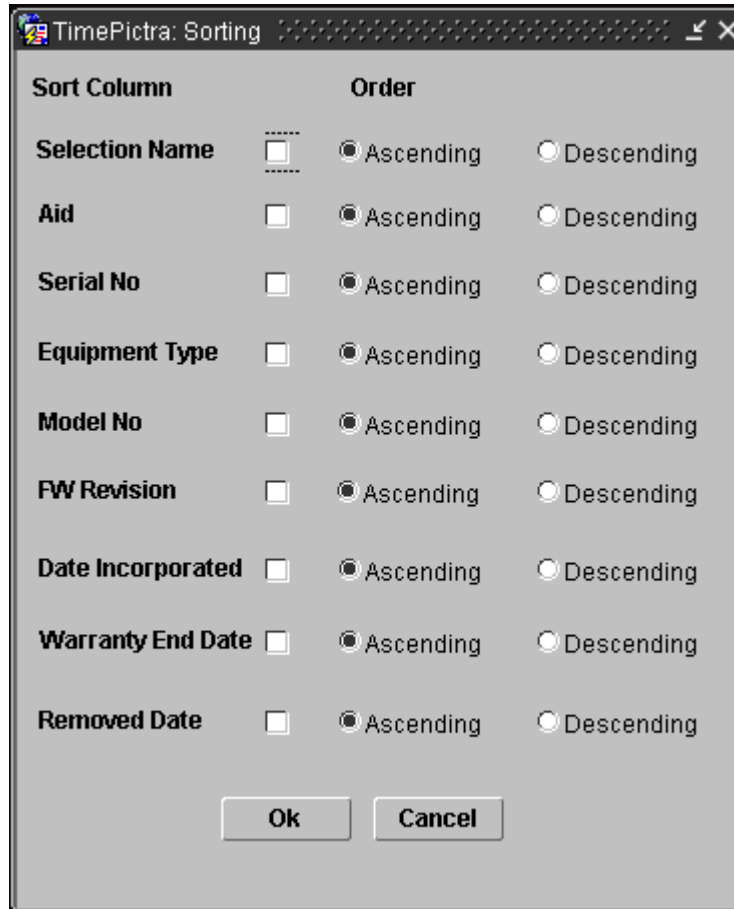

Figure 8-2. Sorting Dialog Box
1. Click the Sort button that is in the NE Inventory dialog box to call up the Sorting dialog box, as shown in Figure 8-2. Choose the desired sort criteria by selecting the appropriate check-boxes.